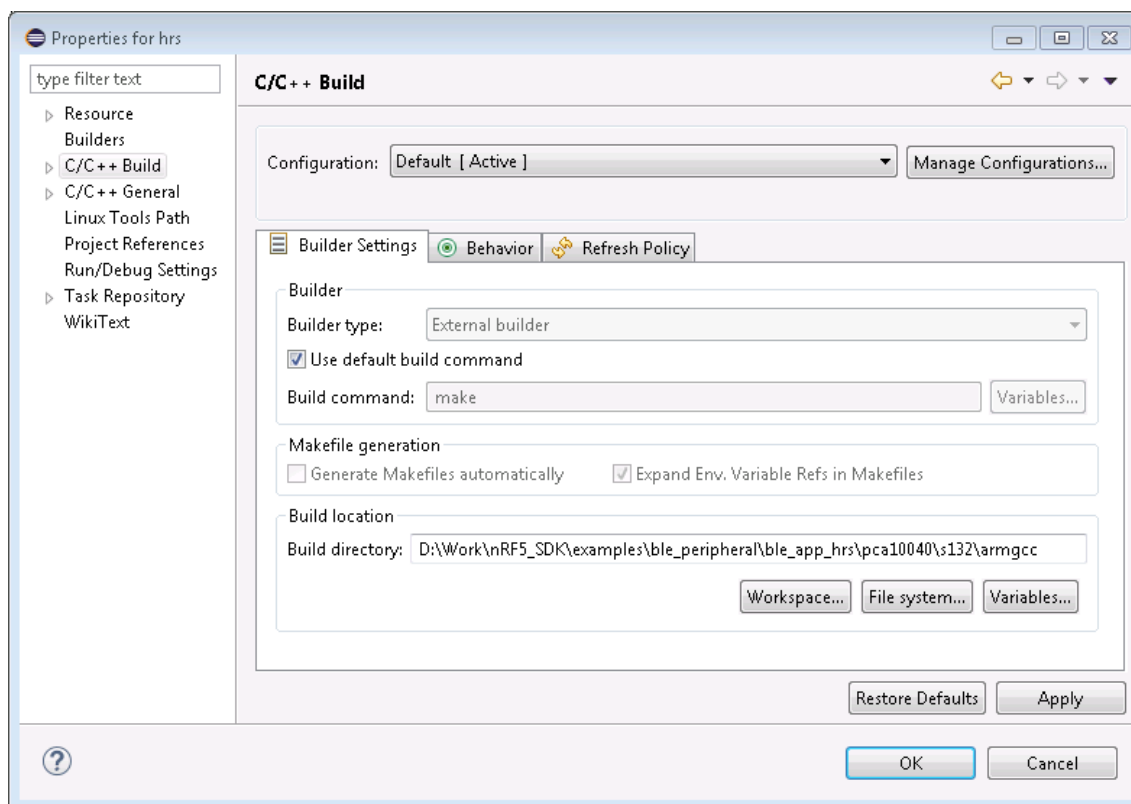

Figure 18: Adding Makefile location to project properties
**D:\Work\nRF5\_SDK\examples\ble\_peripheral\ble\_app\_hrs\pca10040\s132\armgcc** (Figure 18).